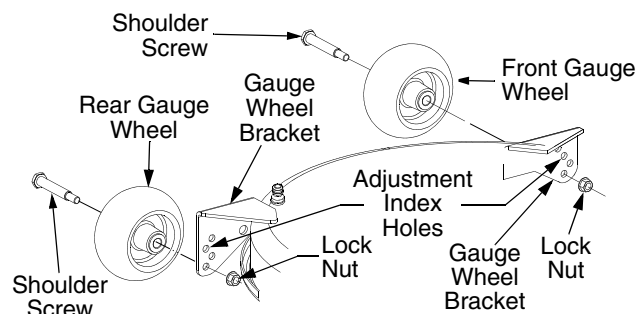

Figure 31
- Remove the lock nut securing one of the gauge wheel shoulder screws to the deck. Remove the gauge wheel and shoulder screw. See Figure 31.